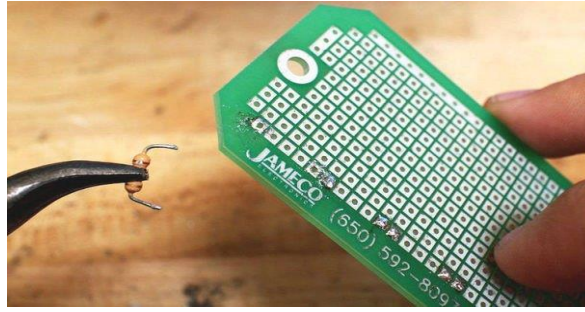

Fig. 3.38 Release the plunger or bulb
4. Release the plunger or bulb. Some desoldering pumps have a release button so that you don't have to hold it the whole time as shown in Figure 3.38